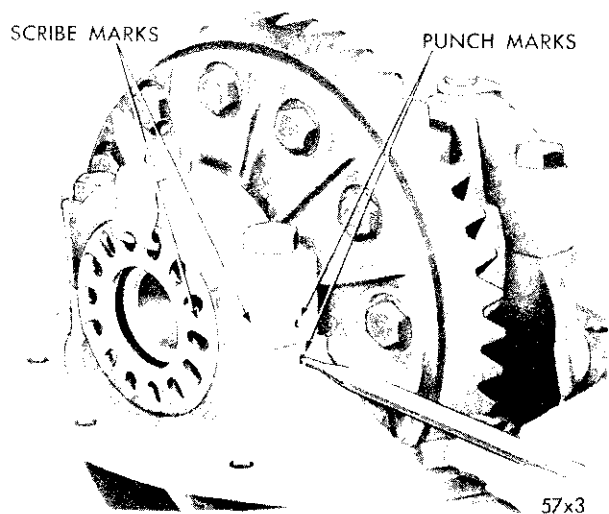
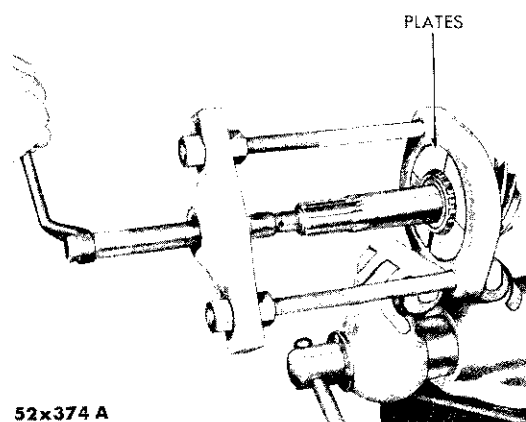

Fig. 11—Marking Bearing Caps and Adjusting Nuts
Fig. 12—Removing Bearing from Pinion Shaft
- (7) Apply identifying punch marks on the bearing supports of the differential carrier, differential bearing caps, and bearing adjusters for re-assembly identification (Fig. 11).
- (8) Remove each of the differential bearing adjuster lock screws and locks.
- (9) Loosen bearing cap bolt (one each side) and back off bearing adjusters slightly with a spanner wrench Tool C-406, to remove differential case bearing pre-load. Remove the bearing cap bolts, caps and bearing adjusters.
- (10) Remove the differential assembly with bearing cups. Make certain that each bearing cup remains with its respective bearing.
- (11) Remove the drive pinion and rear bearing cone from the carrier.
- (12) Using puller Tool C-293 and four No. 36 adaptor plates, remove the rear bearing cone from the pinion shaft (Fig. 12). Remove the pinion locating washer.
- (13) The bearing cups can be removed from the carrier with a blunt brass drift and a hammer.